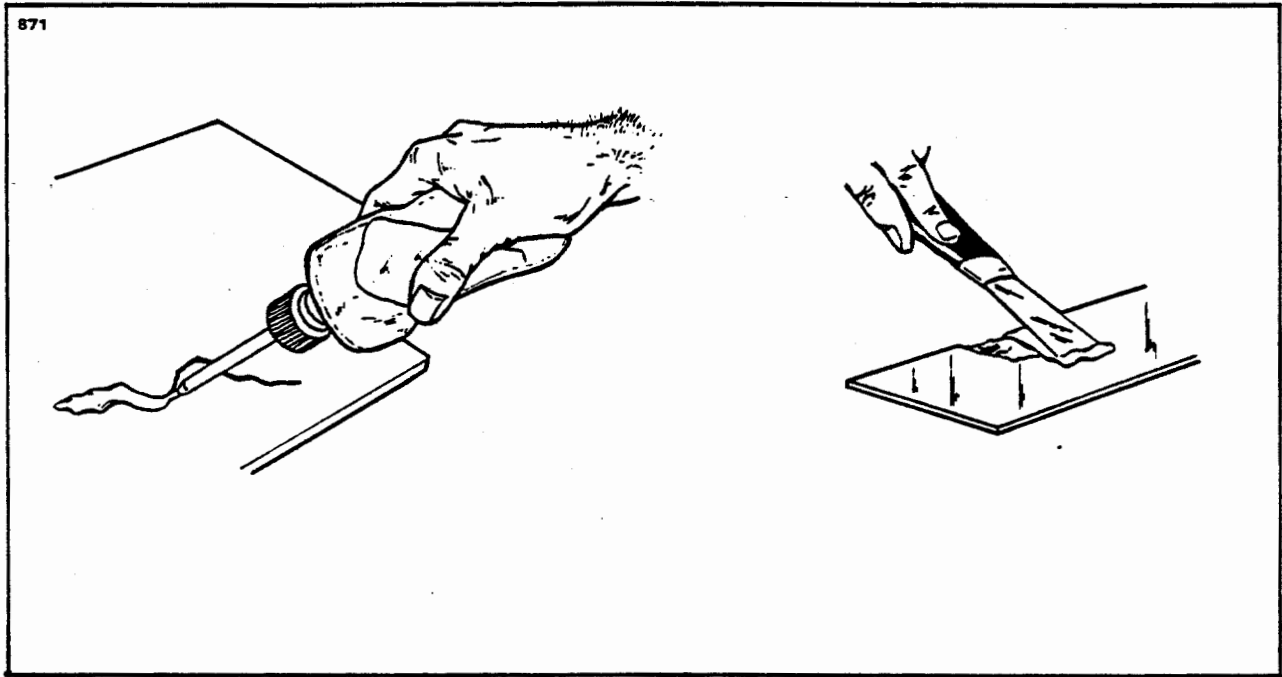

Figure 4-9. Deep Scratches, Shallow Nicks and Small Holes
- c. Deep Scratches, Shallow Nicks and Small Holes: (Less than 1 inch in diameter.) (Refer to Figure 4-9.)